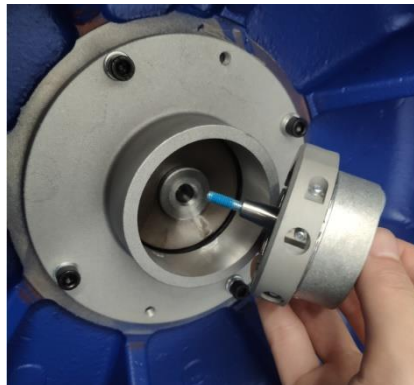

Figure 21
7. Remove both bolts and the encoder, Figure 21.